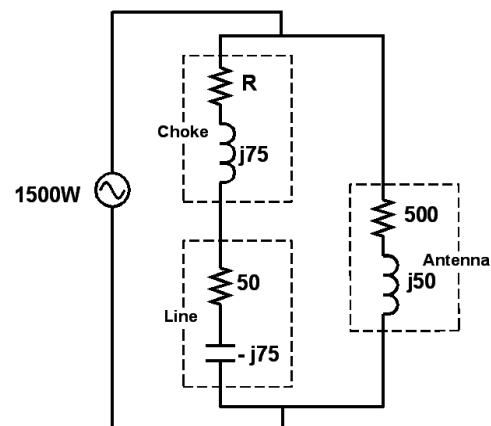

Fig 36 – A Common Mode Choke Applied to a Transmission Line
**The Dissipation Question** is one of the most important, yet one of the most difficult to get a good handle on. Fig 36 is a simplified equivalent circuit of what might reasonably be considered a worst case condition. The 50 ohm line is terminated in a badly mismatched antenna, and the reactance of the choke is resonant with the common mode reactance of the transmission line, so the full transmitter output voltage (less any losses in the line) appears across the choke! If the choke has an  $R = 5K$  ohms, it would have to dissipate about 135 watts.
**How Chokes Fail** Common mode chokes fail when they are under-designed (that is, if they have insufficient choking resistance), and when they are mistreated (that is, when they are in line with an antenna that is badly unbalanced and run at high power levels). Using the analysis of Fig 36, it is easy to see how a choke that provides only 500 ohms choking impedance might easily overheat in this worst case condition.